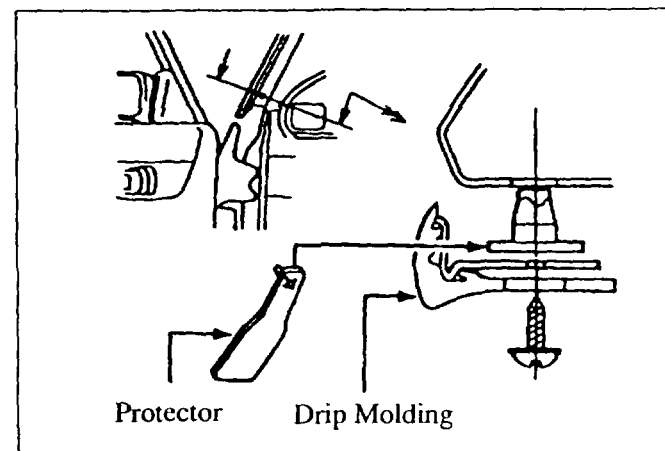

Figure 11: "A" pillar area
- Install a protector between the drip molding and the "A" pillar. **Figure 11.**